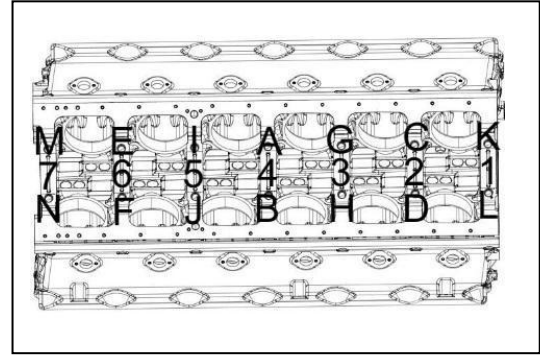

Figure 133
9. Tighten the main bearing bolts in the following sequence (Figure 133):